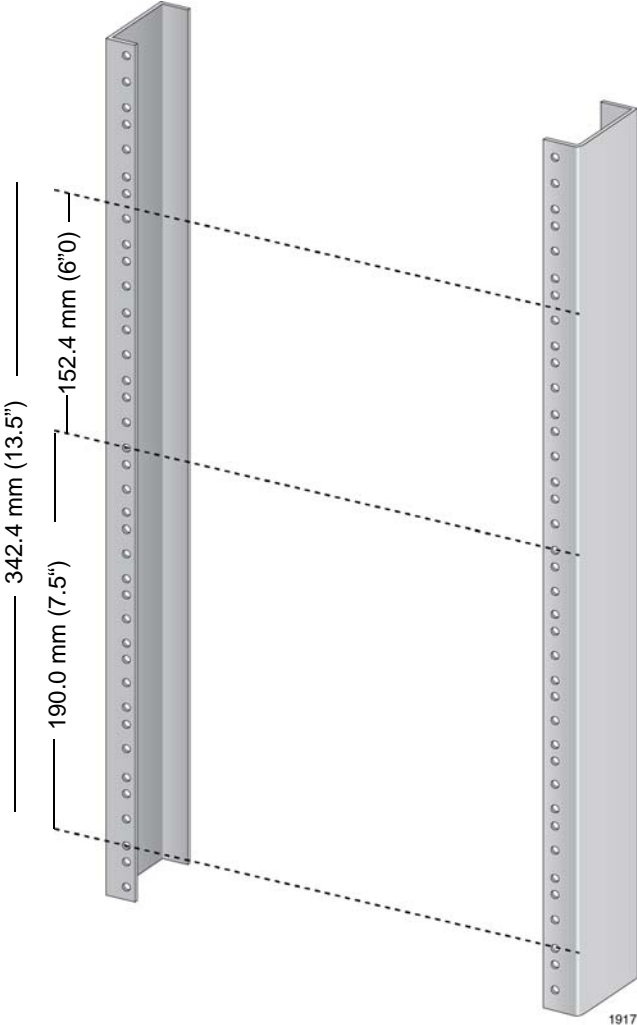

Figure 34. Reserving Vertical Rack Space
1. Reserve 190.0 mm (7.5") of vertical rack space for the installation of the AT-SBx8106 Chassis, as shown in Figure 34 on page 108.